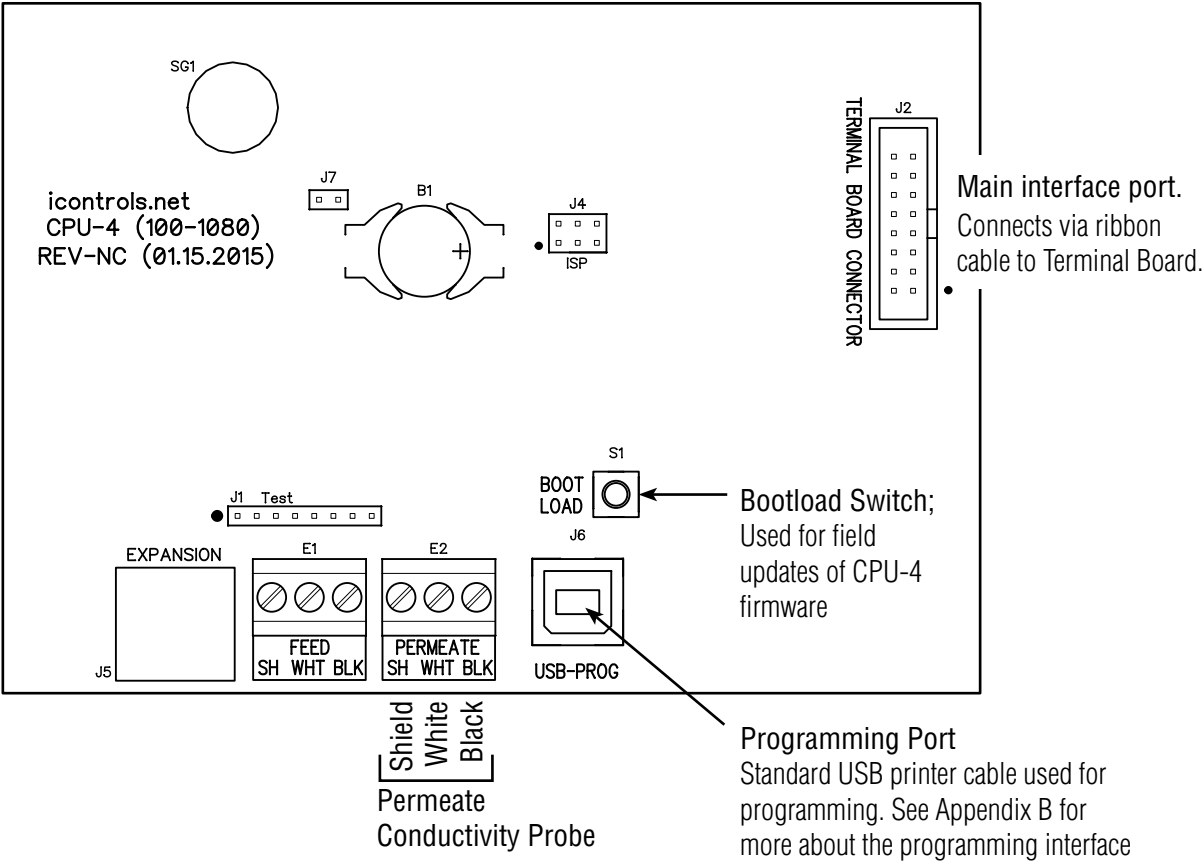

Figure 4. Controller Detail: Terminal Board, TB-4 (See Fig. 1 for schematic)
3. Bring the wires from the peripheral devices into the enclosure and connect them to the appropriate terminals. (See Figure 1, Figure 3 and Figure 4.)
4. Set the voltage selector switch on the Terminal Board to the desired voltage (110VAC or 240VAC) (See Figure 4.)